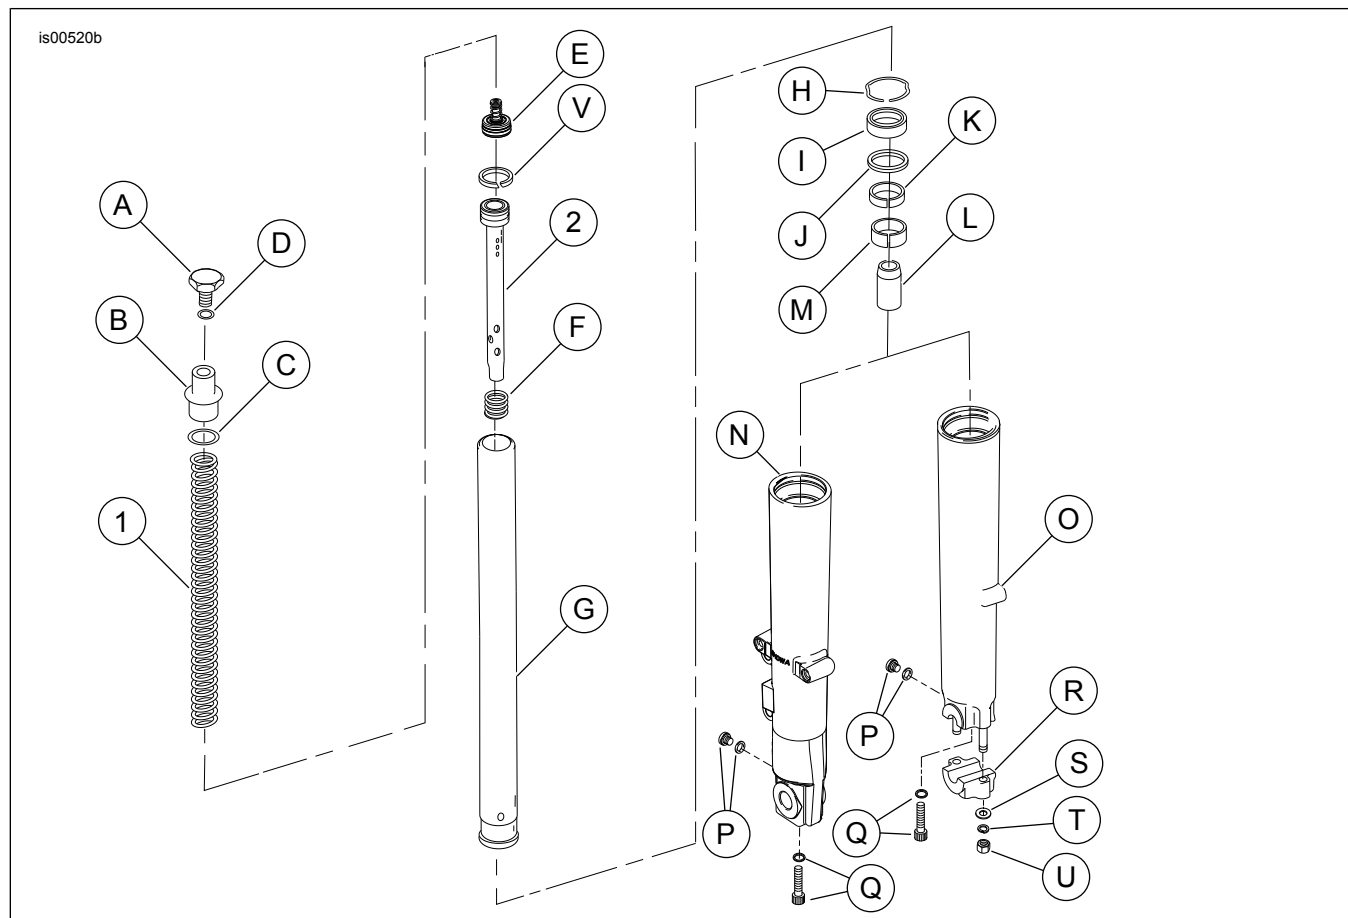

Figure 6. Service Parts: Touring Front Lowering Kit
2. See Figure 6. Remove nuts (U), lockwashers (T), flat washers (S) and axle holder (R) from studs at end of fork slider (O).
Refer to Figure 6 for Steps 4 - 16.
Refer to Figure 6 for the following procedure.